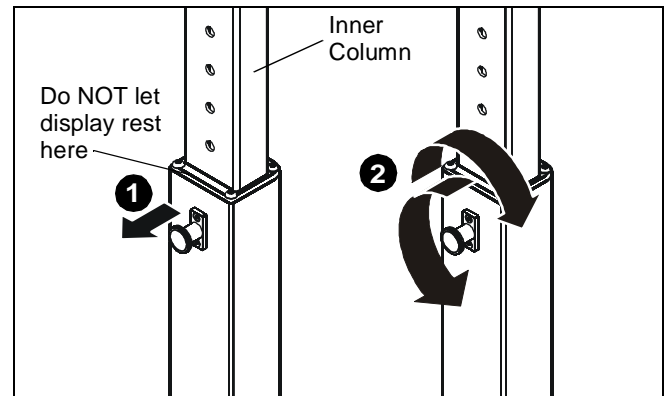

Figure 7
1. Adjust the cart to the desired height by slightly lifting the inner column, pulling out knob on the center post and turning 90° in either direction to disengage the locking mechanism. (See Figure 7)
2. Raise or lower the center post, then turn the knob 90° either direction to engage the knob and lock the cart at desired height. (See Figure 7)
IMPORTANT ! : Set the height of the cart so the display does NOT rest on the lower part of the center post. (See Figure 7) Always set the height so the knob is engaged in a hole in the center post.